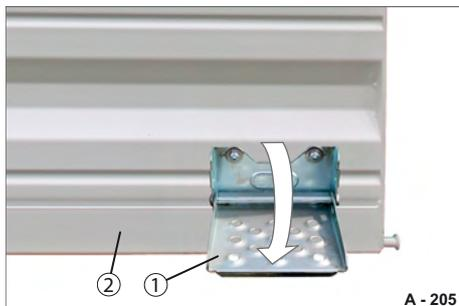

Fig. 216 Folding step, folded out
- ▶ Carefully unlock and fold down the rear platform gate (Fig. 216/2).
- ▶ Pull the folding step (Fig. 216/1) upwards and fold it down. The folding step locks in a horizontal position.